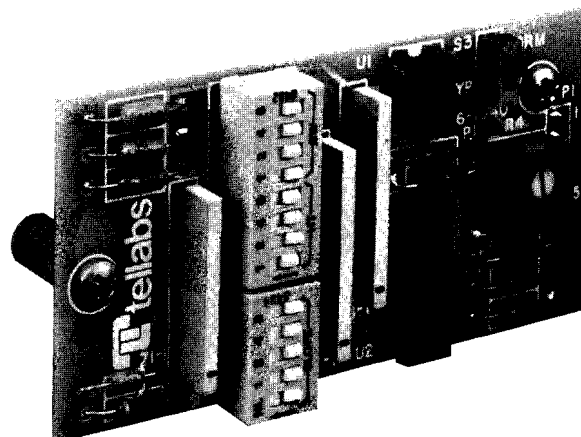

figure 1. 9908B Active Prescription Equalizer subassembly
1.01 The 9908B Active Prescription Equalizer subassembly (figure 1) provides active slope-type or bump-type amplitude equalization for nonloaded or loaded cable facilities. This equalization is equivalent to that provided by the Western Electric 309B Prescription Equalizer and is adjusted via prescription-set slope, height, and bandwidth switches. The 9908B subassembly plugs onto a variety of Tellabs modules.